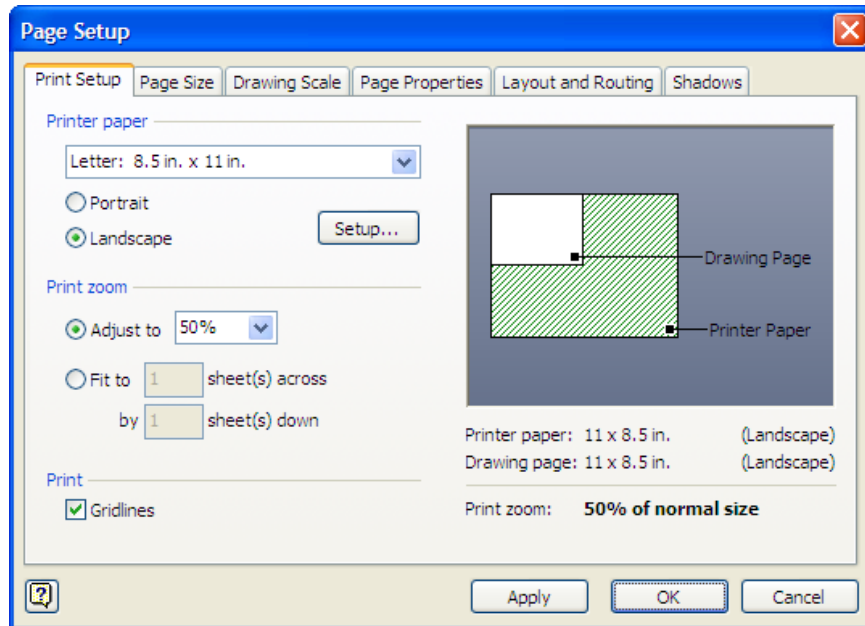

Figure 4 – Page Setup Dialog Box (Print Setup Tab)
The *Page Setup* dialog box is used to customize printed drawings (see Figure 4). It is helpful to customize the printer paper size and the drawing page before starting the drawing in order to better arrange the space. The *Print Setup* and *Page Size* tabs are explained in detail in the following sections.
2. Click the **F**ile menu and select **P**age **S**etup.... The *Page Setup* dialog box opens (see Figure 4).